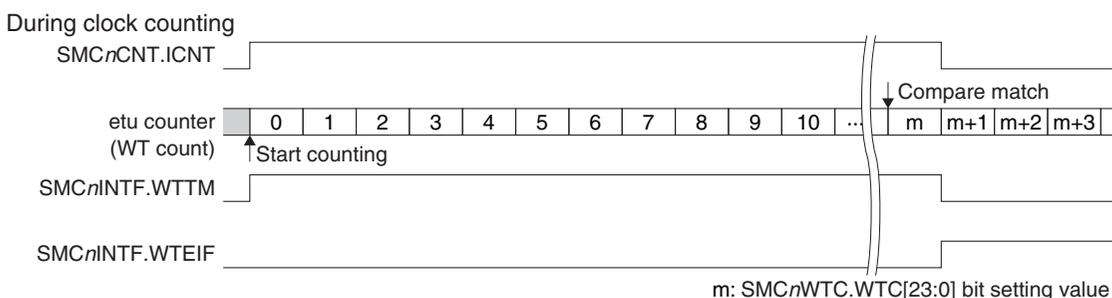

Figure 15.5.1 Guard Time and Wait Time Counter Operations
The minimum and maximum times (configurable in etu units) between the first characters of a frame and the next frame are defined as guard time (GT) and wait time (WT), respectively. SMCIF Ch.n has an embedded etu counter that counts the guard and wait times. The guard time and wait time can be set using the SMCnGTC.GTC[7:0] and SMCnWTC(0/1).WTC[23:0] bits, respectively. The wait time must be longer than the guard time. Figure 15.5.1 shows the counter operations.